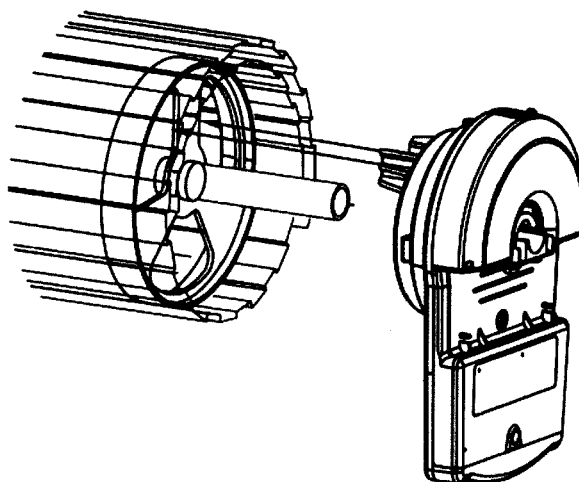

Fig 6
- 1.9 Orientate the AGDO so that its 2 forks line up with the narrowest of the garage door drum wheel spokes. (Fig.6)